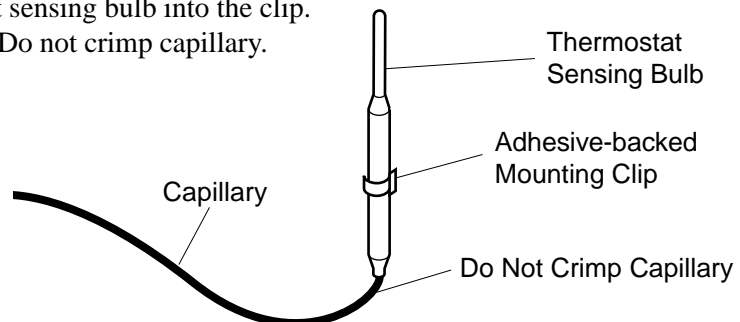

Figure 32 - Positioning the Thermostat Sensing Bulb in the Vertical Position with the Capillary at the Bottom
- The mounting clip must be a minimum of 3" from bottom of fireplace to prevent crimping of capillary. Once you have decided on a location, clean the area thoroughly. Remove the paper backing from the adhesive on back of mounting clip. Press the clip into the new location so that the thermostat sensing bulb will be positioned vertically with the capillary at the bottom (see Figure 32). Slide the thermostat sensing bulb into the clip.